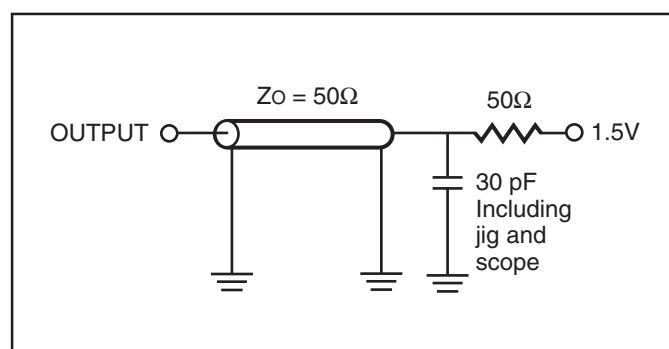

Figure 1.
- Test conditions assume signal transition times of 5 ns or less, timing reference levels of 0.9V/1.5V, input pulse levels of 0.4 to $V_{DD}-0.2V$ /0.4V to $V_{DD}-0.3V$ and output loading specified in Figure 1.
- Test conditions assume signal transition times of 5 ns or less, timing reference levels of 0.9V/1.5V, input pulse levels of 0.4 to V_{DD}-0.2V/0.4V to V_{DD}-0.3V and output loading specified in Figure 1.